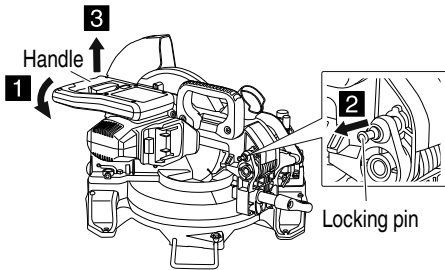

Fig. 6
4. Releasing the locking pin (Fig. 6)